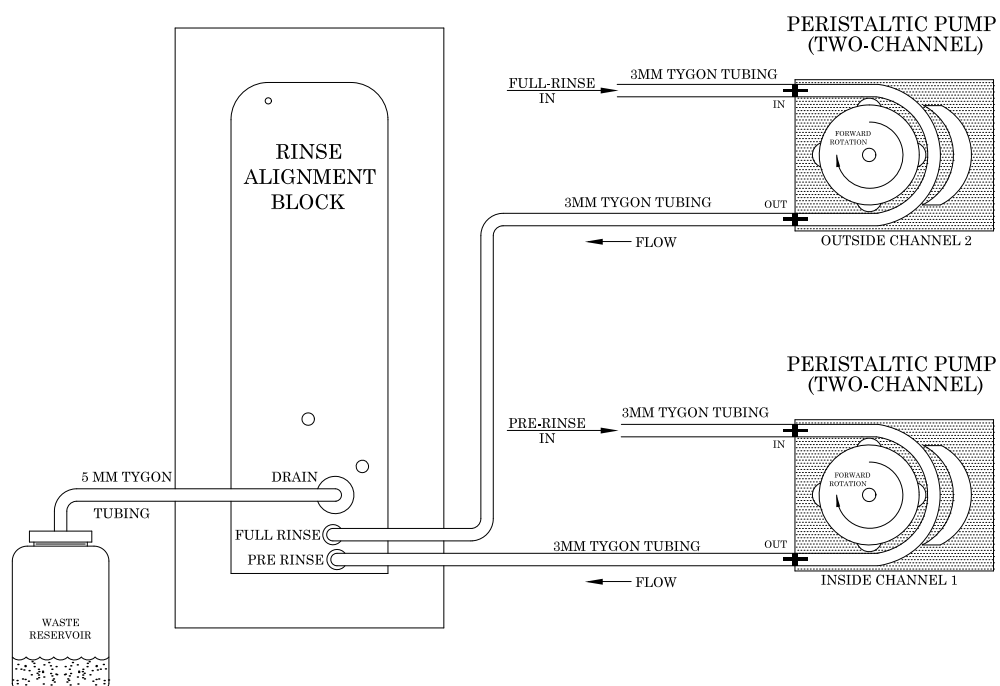

Figure 3-4. Peristaltic Pump Tubing Connections.
- a) Take the free end of the Tygon® tubing protruding through the alignment block from the lower rinse station input and insert it onto the *inside channel* fitting on the bottom of the peristaltic pump as shown in Figure 3-4.**
- b) Take the free end of the Tygon® tubing protruding from middle rinse station input and insert it onto the *outside channel* fitting on the bottom of the peristaltic pump as shown in Figure 3-4.**